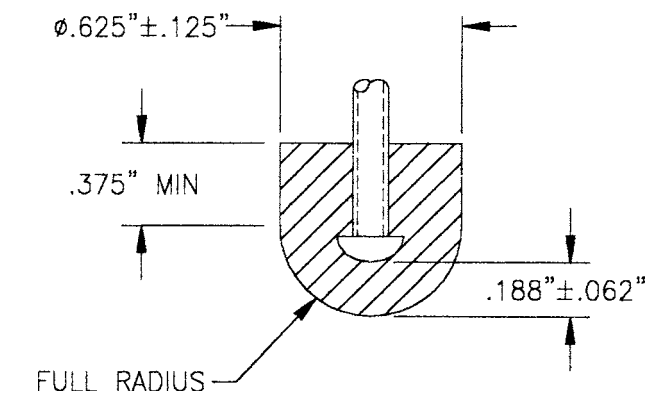
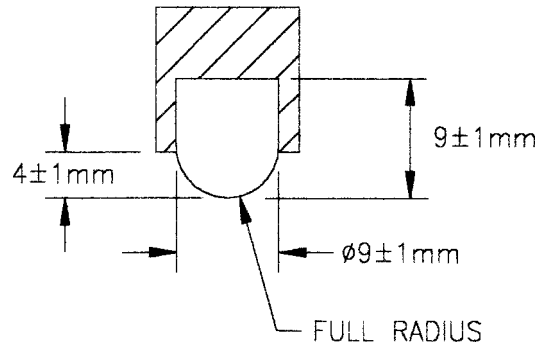

FIG. 3 Test Probe Option
FIG. 4 Test Probe Option
6.1 *Test Probe*, built to either of the configuration shown in Fig. 3 and Fig. 4 are acceptable but must be made of an inert elastomeric material with a hardness number equivalent to  $A/45 \pm 5$  as measured in accordance with Test Method D 2240. Test probes that do not meet the above criteria must be fully specified and recorded.